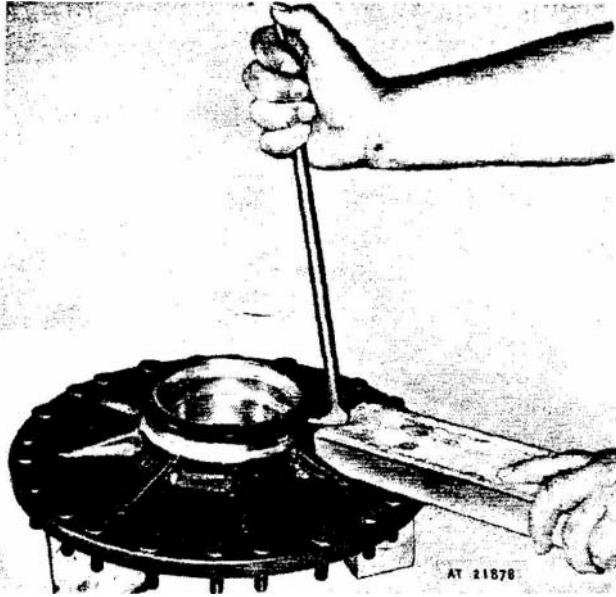

Figure 2-225. Hub seal removal.
(20) Using a suitable tool and a block of wood, work around hub and pry seal from hub (fig 2-225).